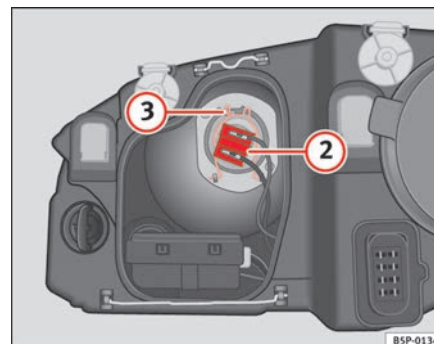

Fig. 188 Dipped head-lights
- Remove the connector ⇒ page 261, fig. 188 ② from the bulb.
- Disengage the retainer spring ⇒ page 261, fig. 188 ③ pressing inwards and to the right.